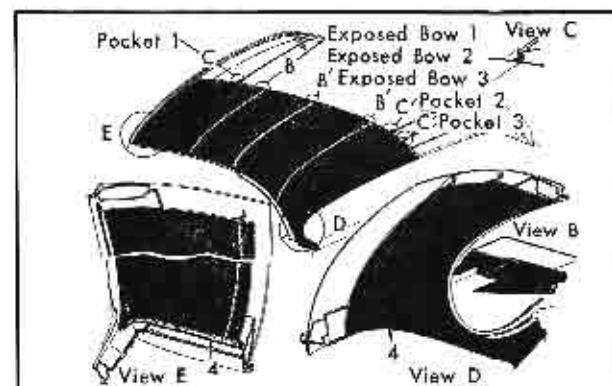

Fig. 3-75 Headlining Removal - (6237DX)
3. Carefully remove all headlining attaching tacks; that is, along the side roof rails, windshield opening and back window opening. View "E" and "D" at 4, Fig. 3-75.